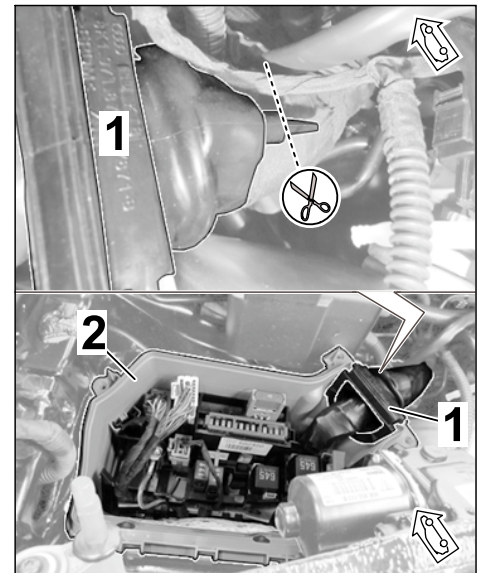

Figure 22
2.4.4 Remove sleeve from fuse box (E-box) in cowl panel and cut off pre-shaped cone (repair opening) (⇒ *Figure 22*).